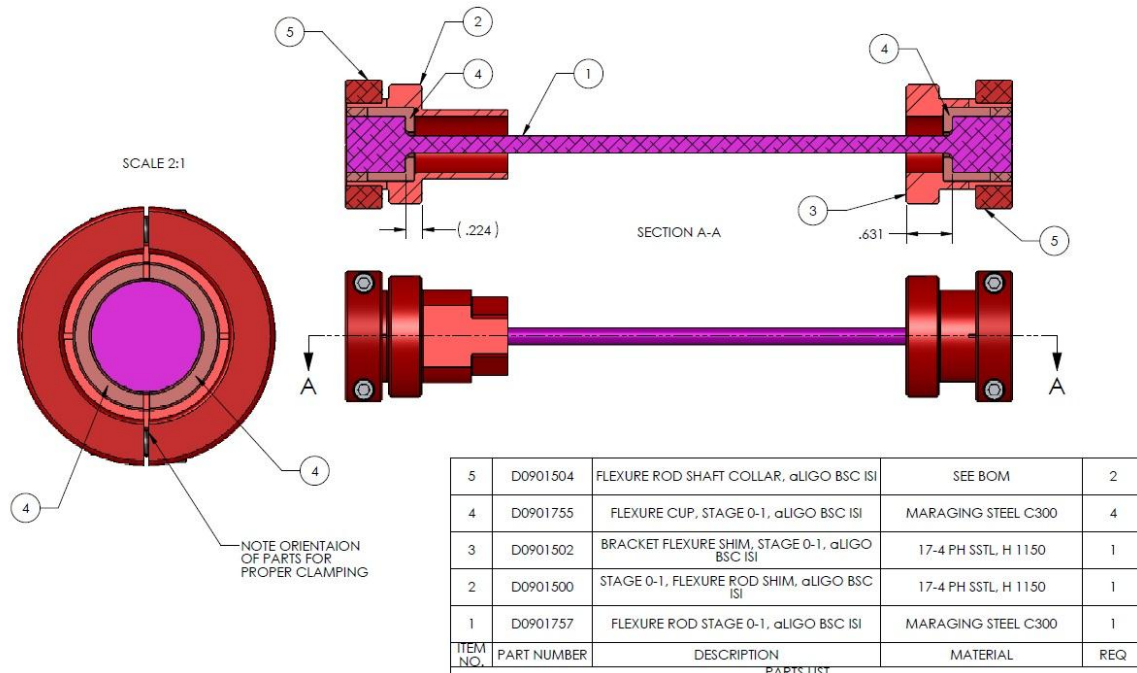

Figure 121: D0902103 Stage 0-1 Flexure Rod Assembly
- Have (2) D0901755 Stage 0-1 Flexure Cups sit on the bottom head of D0901757.
- Slide D0901502 Stage 0-1 Bracket Flexure Shim in place as shown on Figure 121.
- Place (2) other D0901755 Stage 0-1 Flexure Cups inside D0901500.